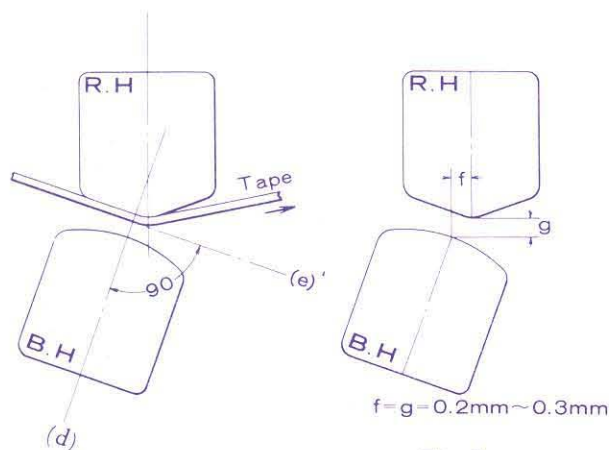

Fig. 4
- b) Angle of the Bias Head (See Fig. 2 and Fig. 4)